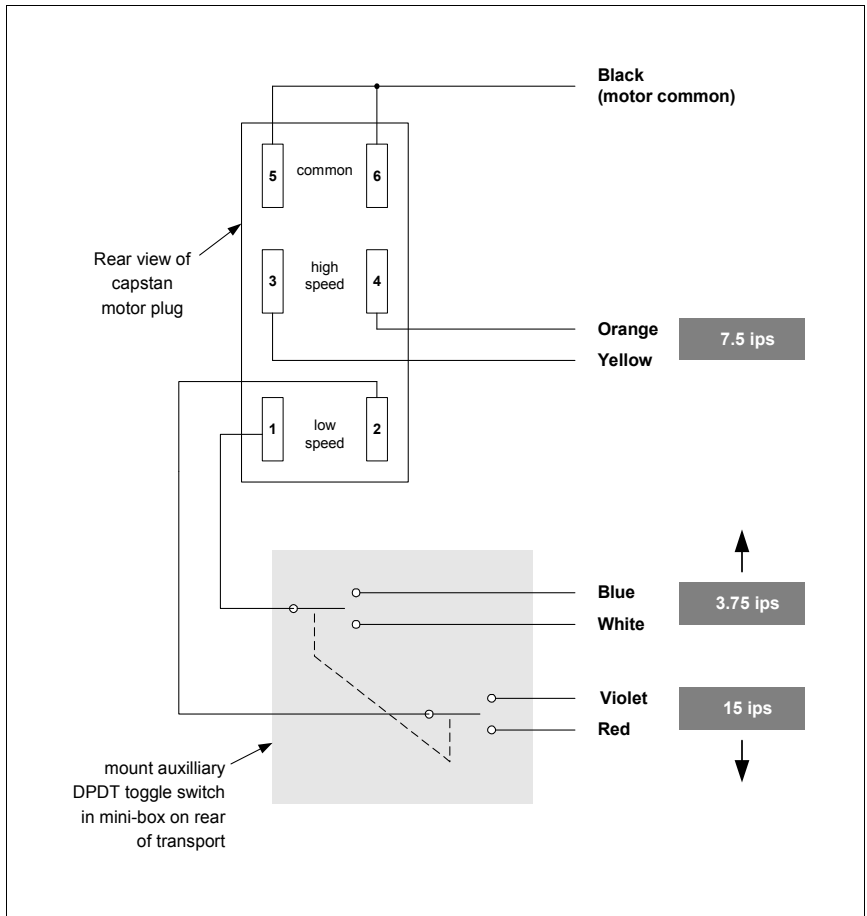

Figure 1. Wiring diagram
- 2 Prepare 6-pin Cinch-Jones male motor plug (see figure 1).